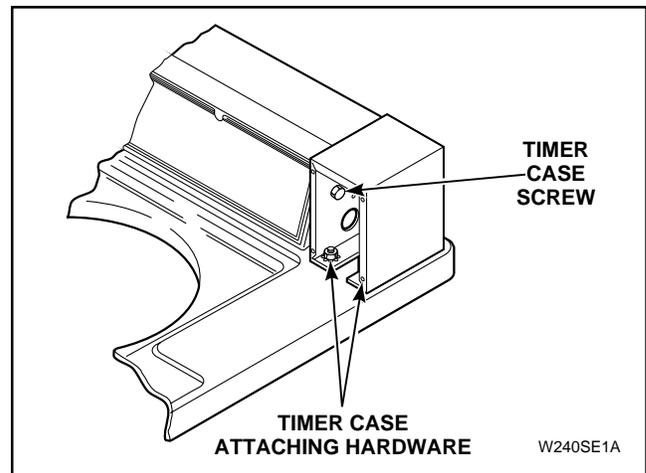

Figure 12
3. Remove cap screw, lockwashers and nut holding timer case to control hood, *Figure 12*.